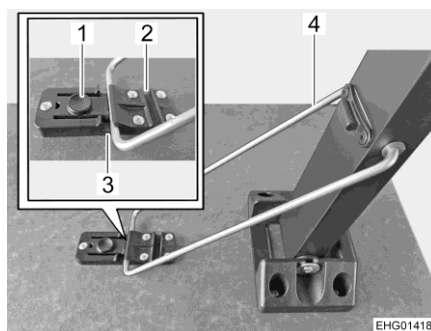

Fig. 39 Folding table, lock
- Before the table leg is vertical: Slightly lift the support frame (Fig. 39,4), guide it over the locking element and press it into the first groove (Fig. 39,3). The support frame must be secured by the plastic tab, as shown in Fig. 39.
- Fold in the centre table leg. To do this, press the release knob (Fig. 39,1), pull the support frame out of the groove and fold down the table leg.
- Press the table leg into the second groove (Fig. 39,2) until it engages.